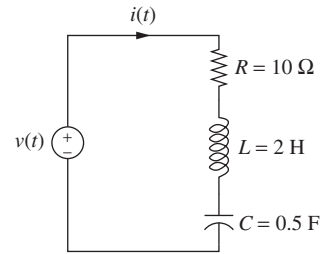

Figure P9.26 A series RLC circuit.
- 9-26.** The RLC circuit shown in Fig. P9.26 has $R = 10 \Omega$, $L = 2$ H, and $C = 0.5$ F. If the current $i(t)$ flowing through the circuit is $i(t) = 10 \sin(240\pi t)$ A, find the voltage $v(t)$ supplied by the voltage source, which is given by